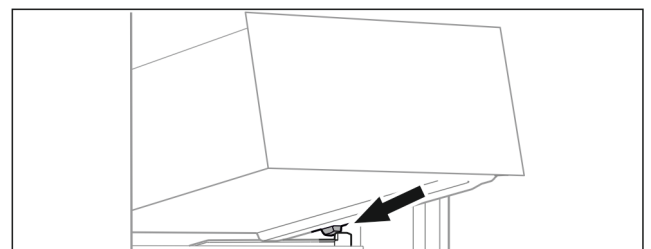

Fig. 87
- Place drawer at an angle behind the stoppers on the moulded rib. (see Fig. 87)